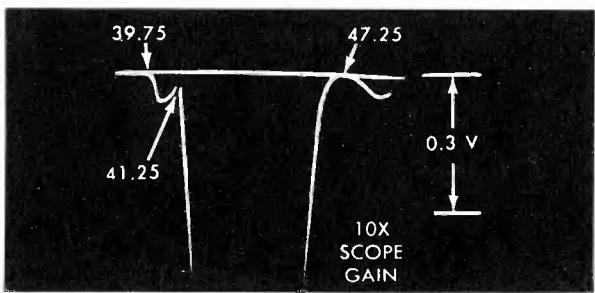
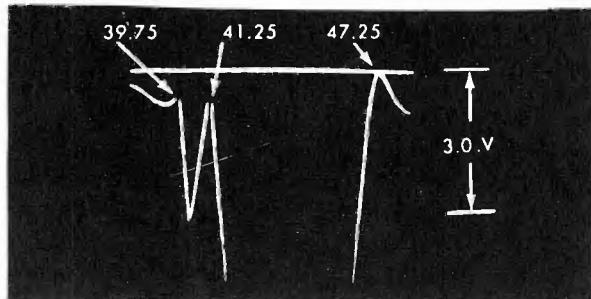
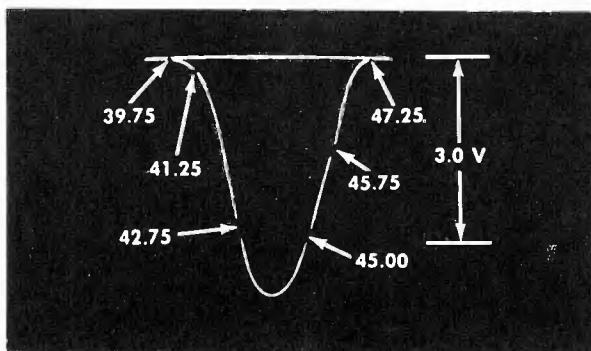

Fig. 6 Expanded View of Traps
Fig. 7 Further Expansion of Fig. 6 for Detail View of the 39.75 and 47.25 MHz Traps
Fig. 8 Overall IF Response Curve
- Connect the sweep generator to terminal 'A' (converter grid). Connect terminal 'F' to chassis and connect a jumper between terminal 'E' and chassis. Adjust the sweep to obtain a 3V. P.P. response similar to Fig. 8. Switch oscilloscope to 10X gain to 'blow up' the traps (Fig. 6).
- Refer to Fig. 6 and adjust the 39.75 MHz and the 41.25 MHz traps for minimum marker amplitude. Connect jumper between 'E' and the junction of the 68 ohm and 1500 ohm resistors in the cathode circuit of the 1st IF. This provides an additional 'blow up' of the 47.25 MHz traps (Fig. 7). Adjust the 47.25 MHz trap for minimum marker amplitude.
- Disconnect jumper between 'E' and the 68 ohm and 1500 ohm cathode resistors. Connect this jumper between 'E' and chassis. Adjust sweep generator for 3 volts peak to peak output at the second detector. Alternately, adjust the 2nd, 3rd, 1st IF and the converter plate coil until an overall response similar to Fig. 8 is obtained. It will be found that the 2nd IF affects the low side (42.75 MHz) and the 3rd IF, the high side of the response curve.